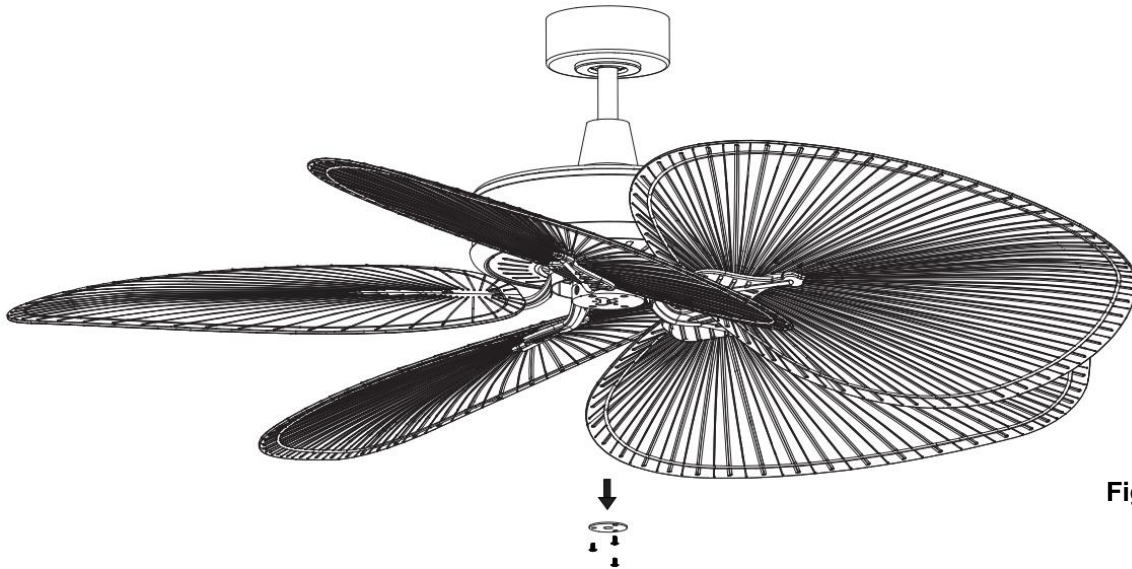

Fig. 8
- Remove the bottom cover adaptor from the fan assembly by loosening the 3 screws. (Fig. 8)